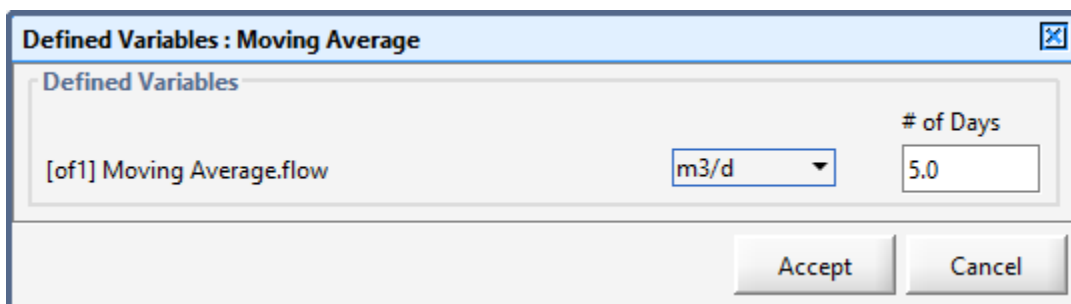

Figure 5-5 – Specifying Moving Average Time Frame (Method 2)
- (3) Enter the desired value into the entry field (**Figure 5-5**)
- (4) Hit “*Accept*”.